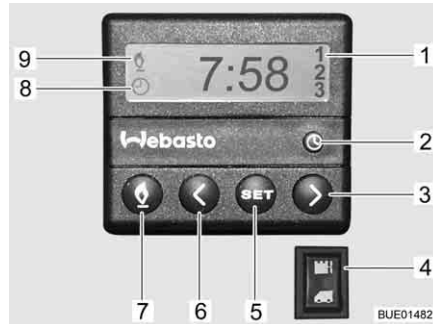

Fig. 197 Operating unit for independent vehicle heater
- Press the button (Fig. 197,7). The heating mode is displayed by the symbol (Fig. 197,9). The fan will only be switched on when there is a coolant temperature of 30 °C.
- Press the button (Fig. 197,7). The symbol (Fig. 197,9) goes off.
- Press the lower part of the switch (Fig. 197,4). Engine is preheated. The fan is switched on immediately.
- Press the upper part of the switch (Fig. 197,4). Engine stays cold.
- Press the button (Fig. 197,2). The time setting is displayed by the symbol (Fig. 197,8).
- Set the time with the buttons (Fig. 197,3 and 6).
- Press the button (Fig. 197,5).
- Set the switching on time within ten seconds, with the buttons (Fig. 197,3 and 6).
- Keep pressing the button (Fig. 197,5) until the selected programme number (Fig. 197,1) appears in the display.